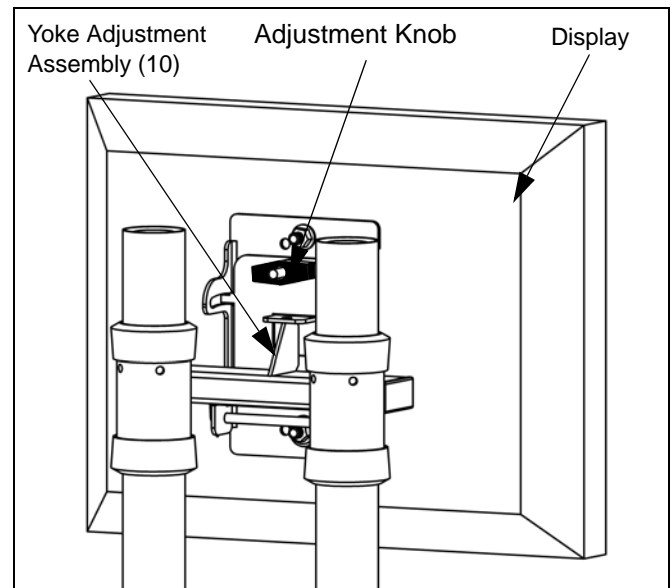

Figure 8: Adjust Pitch
1. Turn tilt adjustment knob to left to tilt display down or right to tilt display up. (see Figure 8)